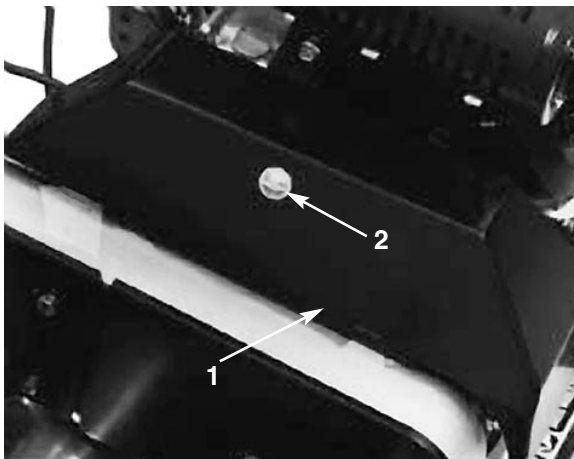

Figure 32
### Primary v-belts (Fig. 32–33)
2. Loosen the retainer securing V-belt cover and pivot the cover open (Fig. 32).